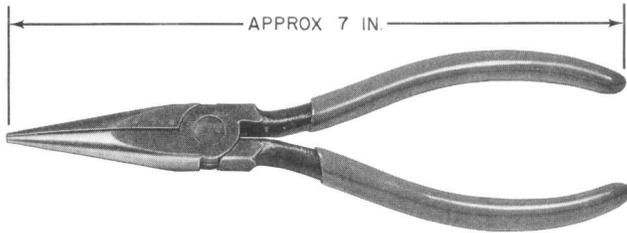

Fig. 5—AT-7860 B or D Long-Nose Pliers
2.05 AT-7860 B or D: The AT-7860 B or D tools are long-nose pliers (Fig. 5). The tools are identical except the D pliers have an insulating aluminum oxide coating on the jaws. These tools replace the AT-7860 P and F tools and are for general use. The plastic cushion grips do not provide protection against hazardous voltages.